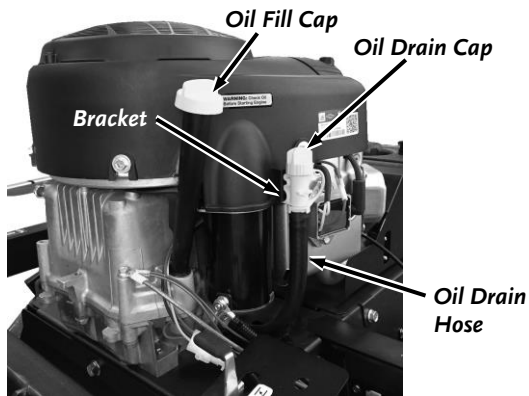

Figure 30
2. Remove the Oil Fill Cap/Dipstick (**Figure 30**).